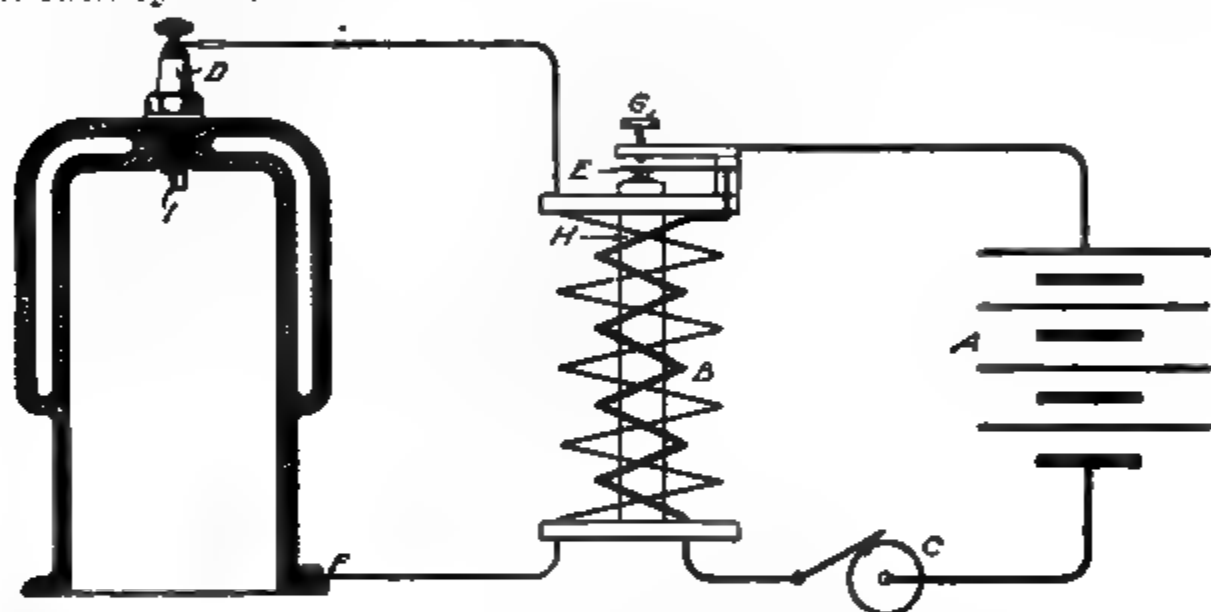

Fig. 42. Diagram of High-Tension Ignition System
The essentials of a high-tension system are shown diagrammatically in Fig. 42. *A* is the source of current, usually a battery in earlier days, as indicated by the conventional sign, placed in a primary circuit that also includes the contact maker *C*, the primary winding of the coil *B*, and the vibrator *G*. The contact maker *C* is positively driven by a connection with some revolving part of the motor, so that it makes contact at the exact time ignition is required in each cylinder.
As shown by Fig. 42, the latter has two distinct windings, one of a few turns of comparatively coarse wire and the other of many thousand feet of exceedingly fine wire, with high-grade silk insulation. After completing the coil, consisting of two superimposed windings and an iron-wire core passing through their center, it is placed in a wood box which is filled with melted paraffine wax which, upon solidifying, greatly enhances the resisting power of the insulation to breakdown, due to the great difference in potential between various parts of the secondary winding. To set up an induced current in the secondary winding, the primary circuit must be quickly opened and closed.
***Necessity for Vibrator.*** The breaking of the primary circuit is accomplished by the use of a vibrator, a typical form of which is illustrated at *E*, *G*, and *H*, Fig. 42. This consists simply of the thin blade of spring steel at *E*, provided with an armature at the free end to intensify the attraction of the coil *H*, and adjacent to the adjusting screw at *G*, by which the distances between the contact points can be accurately set. In addition to these elements it is usual to provide a screw adjustment for increasing or reducing the tension of the vibrator blades.